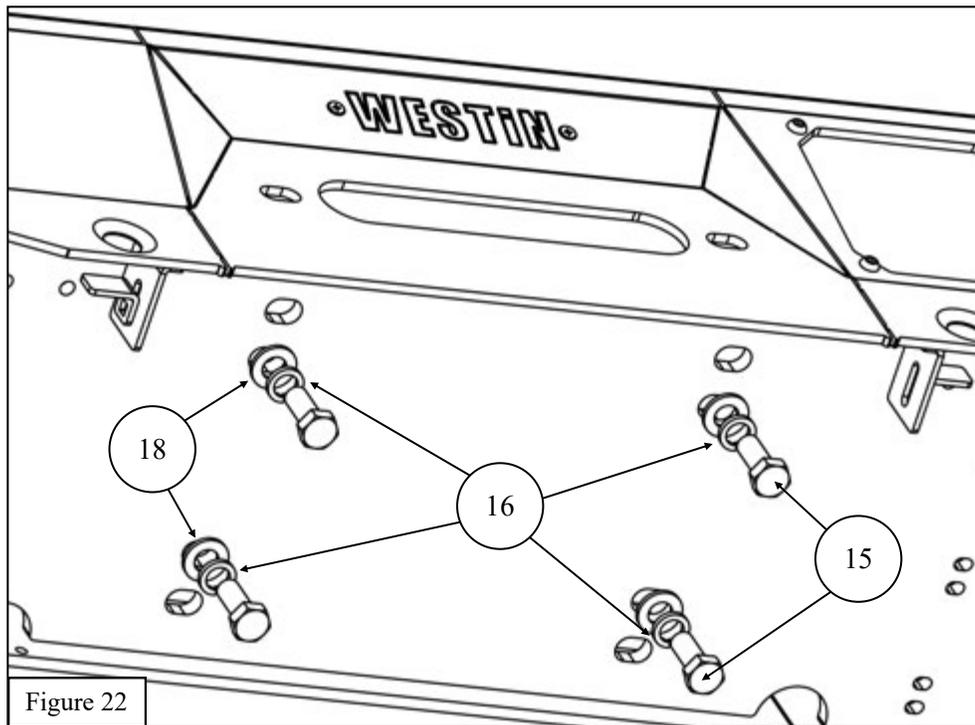

Figure 22
30. If installing parking sensors, connect the parking sensor extensions to the parking sensors and attach the parking sensor extensions to the bottom of the winch tray using the provided zip ties (**item 30**). Route the parking sensor extensions through the bumper, underneath the winch tray and to the parking sensors. On each side, attach the zip ties to the pairs of small slots in the winch tray and the parking sensor extensions.
31. Install the ACC Cover (**item 8**) to the winch tray using the provided M6 hardware (**items 24 and 25**) Tighten the M6 hardware to 7-8 ft-lbs.
33. Install the winch into the tray. If installing a Superwinch Tiger Shark 18,000 winch, use the M12 hardware (**items 14-18**). See **Figures 22 and 23**.